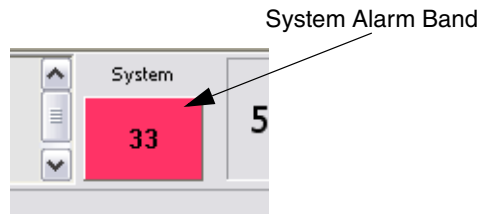

Figure 94. Accessing the System Alarm List
- from an Alarm Band button in the Application Bar (see Figure 94).